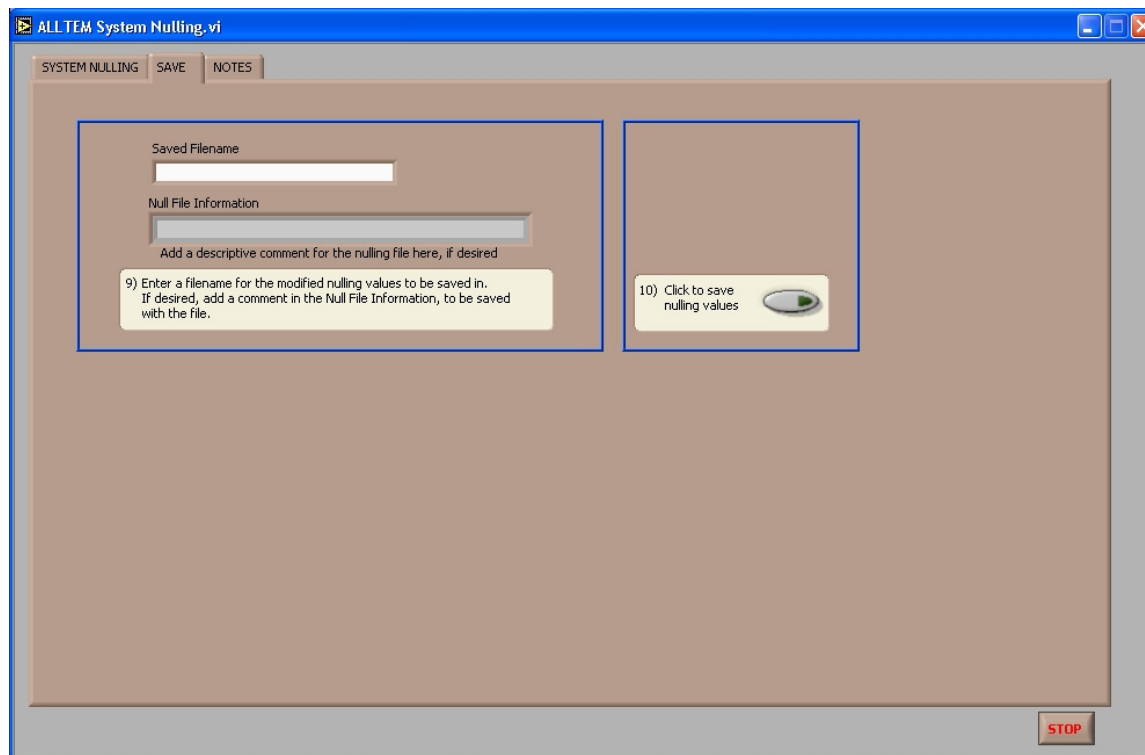

Figure 2.6. The **SAVE** tab with instructions.
Step 8: When all combinations have been nulled, go to the **SAVE** tab, Figure 2.6.